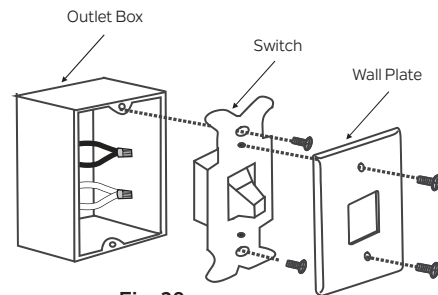

Fig. 28
**Step 1.** Remove the existing wall plate and the old switch from the wall outlet box. (Fig. 28)
**Step 2.** Connect the BLACK leads (hot) together with a wire connector (not supplied) and push the connected leads back inside the wall outlet box. (Fig. 28)
**Step 3.** Connect the WHITE leads (neutral) together with a wire connector (not supplied) and push the connected leads back inside the wall outlet box. (Fig. 28)